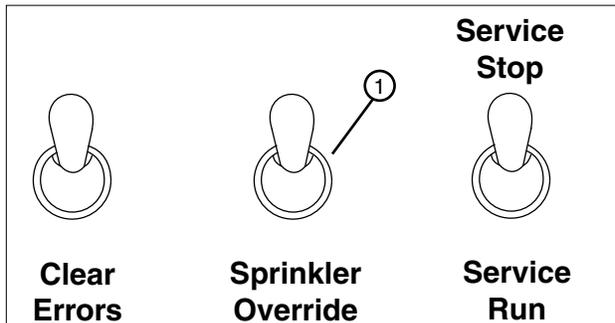

Figure 32-2 1. Sprinkler Override Switch
In the ON (DOWN) position all the water valves will be turned on ignoring the internal program. For normal operation the switch is set to the Normal (UP) position. See Figure 32-2.